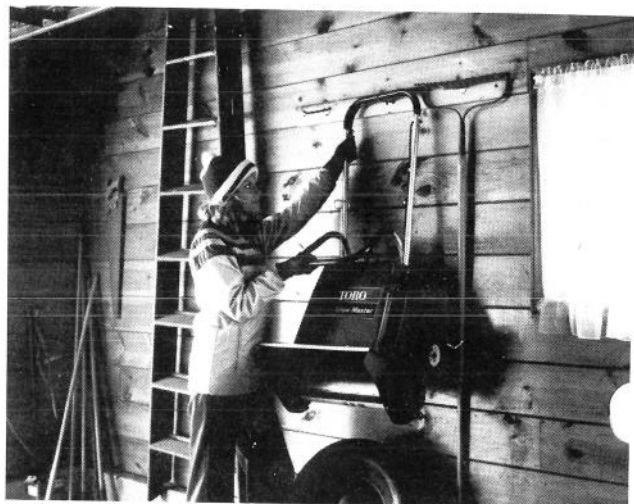

Figure 11
8. Move vanes to vertical position when storing snowthrower. Hang snowthrower by upper handle for convenient storage (Fig. 11).